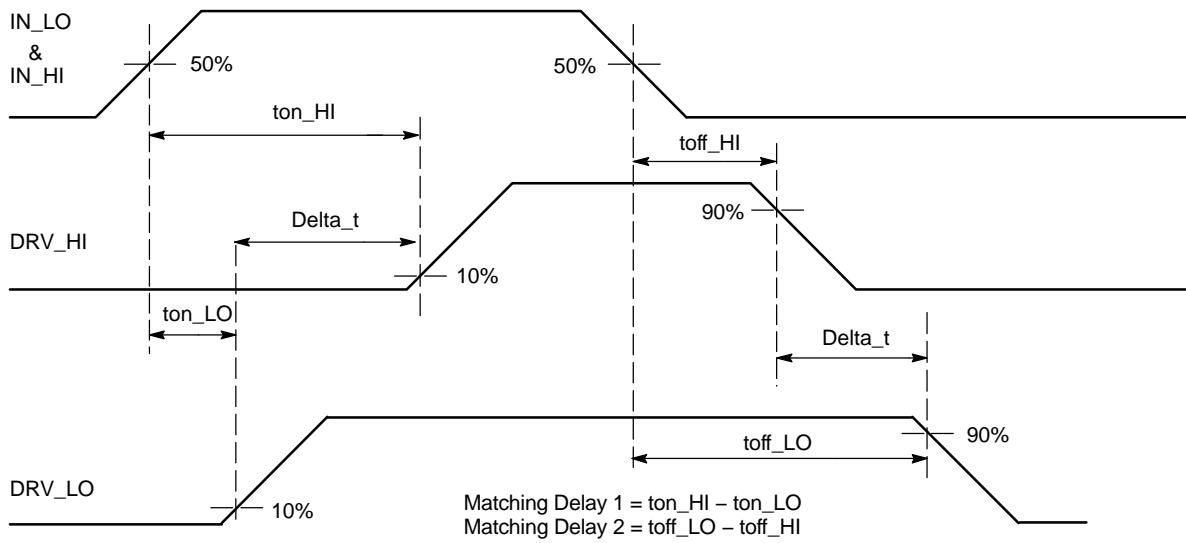
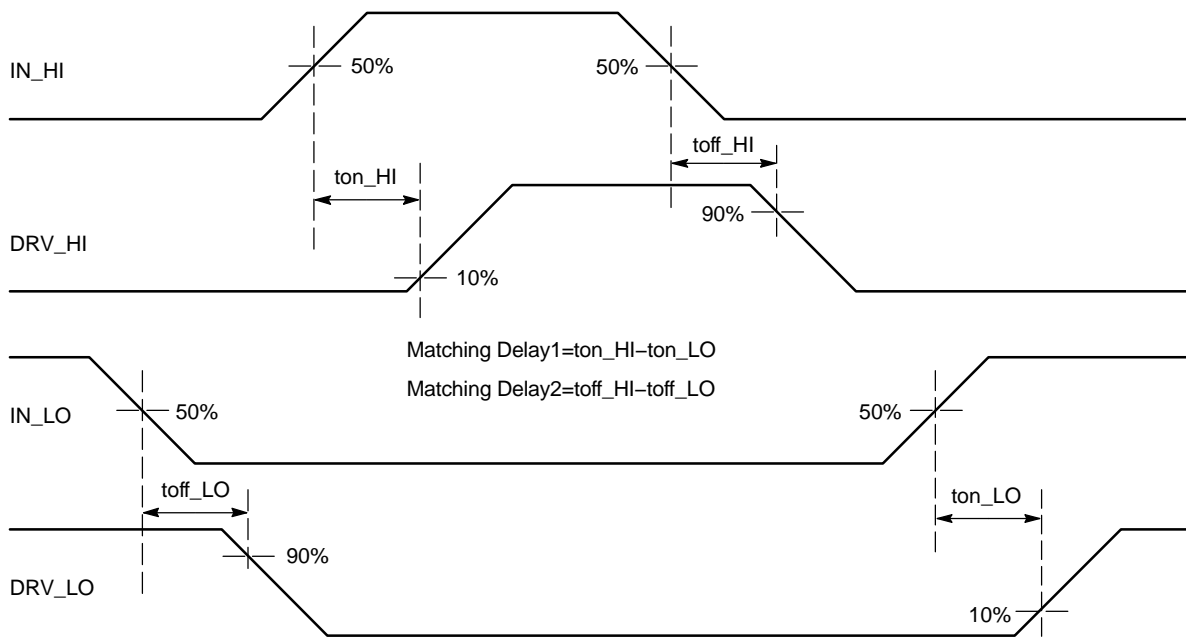

Figure 8. Matching Propagation Delay (A Version)
Figure 9. Matching Propagation Delay (B Version)
5. Timing diagram definition see: Figure 7, Figure 8 and Figure 9.